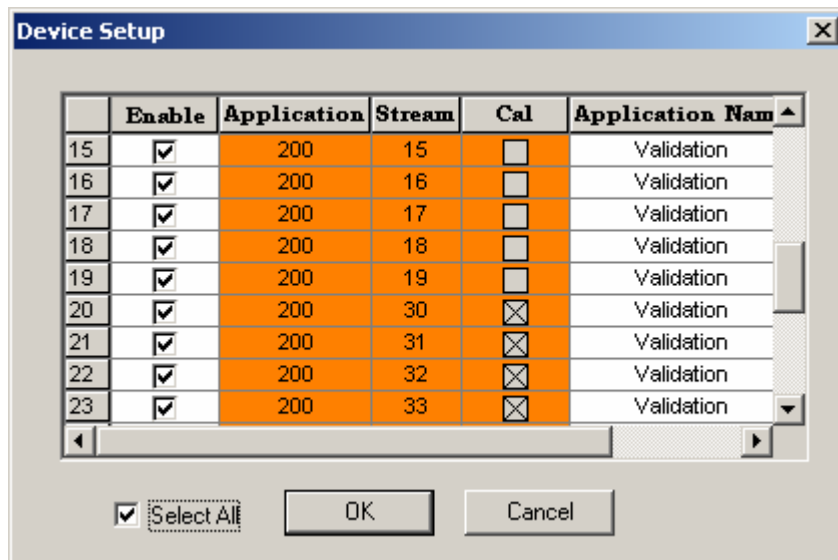

Figure 16
3. The MOS connects with the device and sends a query to determine the available Applications and Streams. The *Device Setup* dialog box is automatically displayed. Select the specific Application(s) and Stream(s) by clicking on the appropriate checkbox under the *Enable* column or select all of the Applications and associated Streams by clicking the left mouse button on the *Select All* checkbox. (See Figure 16). Click on OK to create the Device, Application, and Stream folders with their associated Tags.